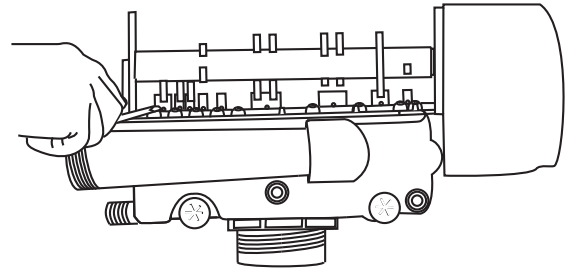

Figure 18
- Relieve system pressure by opening the Backwash Drain Valve (the seventh valve back from the control) with a screwdriver, (Figure 18).
- Relieve pressure by opening the Backwash Drain Valve (the seventh back from the control) with a screwdriver (Figure 18).